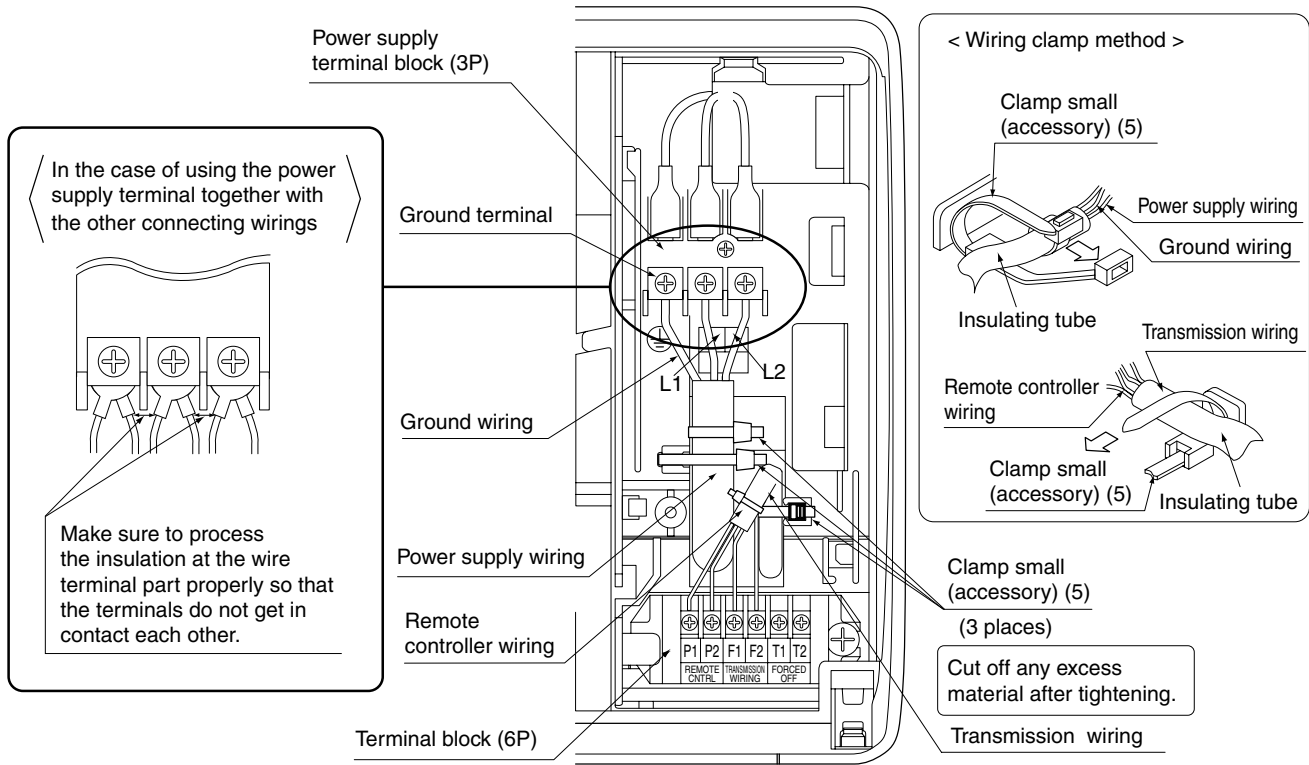
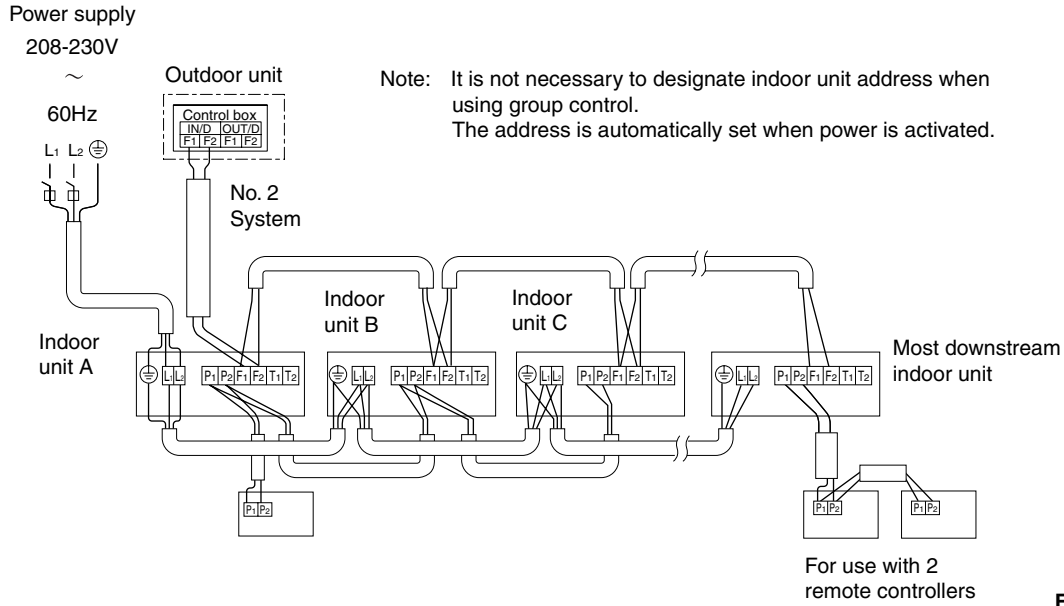

Fig. 22
Fig. 26
When doing this, firmly secure using the included clamp (small) (5) according to the figure. **(Refer to Fig. 22)**
When doing this, tie the remote controller wiring and the transmission wiring using the included clamp (small) (5) and then firmly secure using the included clamp (small) (5) according to the figure. **(Refer to Fig. 22)**
- (3) Remove the service lid.
- (4) Add second remote controller (slave) to the terminal block (6P in Figure 22) for remote controller (P₁, P₂) in the electric parts box. There is no polarity. Refer to Fig. 26 and Section 7-3 for the wiring size.